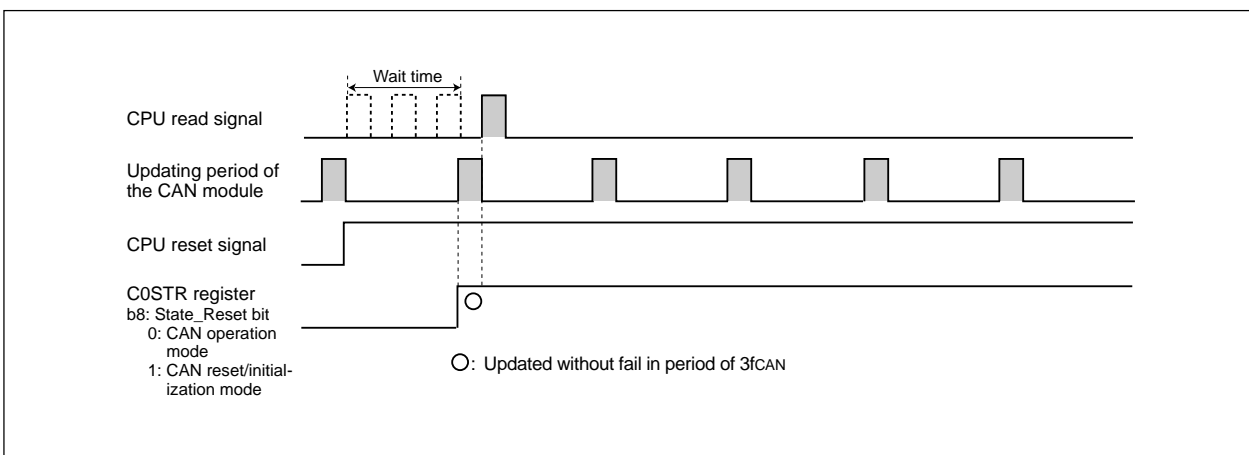

Figure 22.6 With a Wait Time of 3fCAN Before CPU Read
- (1) There should be a wait time of  $3f_{CAN}$  or longer (see **Table 22.2**) before the CPU reads the C0STR register. (See **Figure 22.6**)